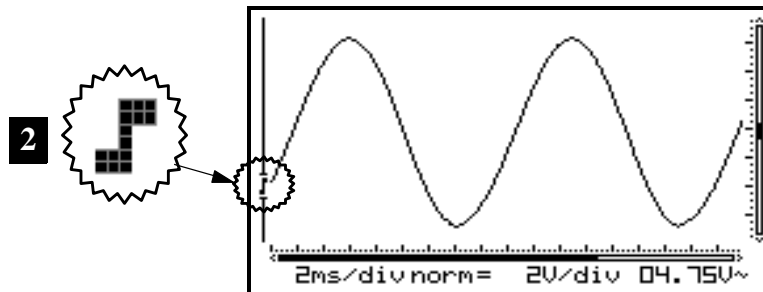

Fig 42
2. Triggering on the falling slope of the signal: The screen will only display the signal when a negative slope is "detected", viz. the signal has to drop in vertical direction in order to trigger. (**Fig 42**)